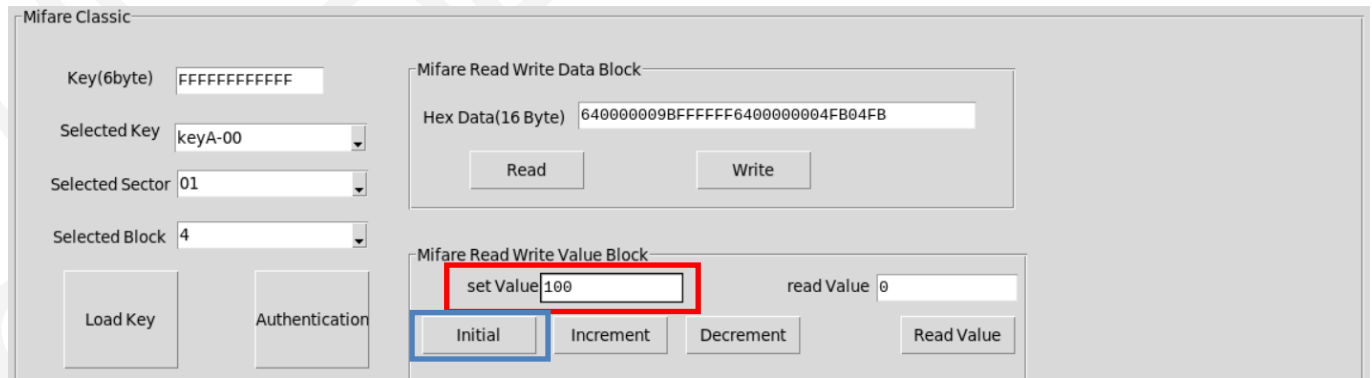

Figure 6.7-1 Initial value
7. Input value to be initial, as shown in Figure 6.7-1